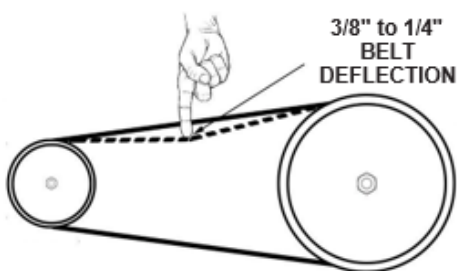

Fig. 60
This Bandsaw has two blade speeds, high speed and low speed. Reference (Fig. 60). This figure is also found on the inside of the lower door.
3. Tension the drive belt to allow 9,53 mm to 12,7 mm deflection. Avoid over-tensioning to prevent damage to the belt, pulleys, and motor (Fig.60).